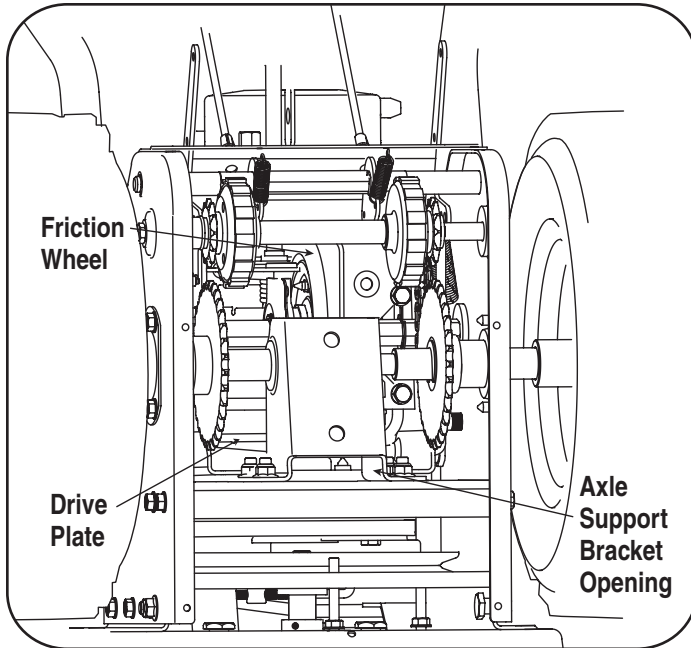

Figure 16
3. With the wheel drive control released, check if there is clearance between friction wheel and drive plate in all positions of the shift lever. See Figure 16.
4. With the drive control lever engaged, check if the friction wheel solidly contacts the drive plate. See Figure 16. If not, adjust as follows: